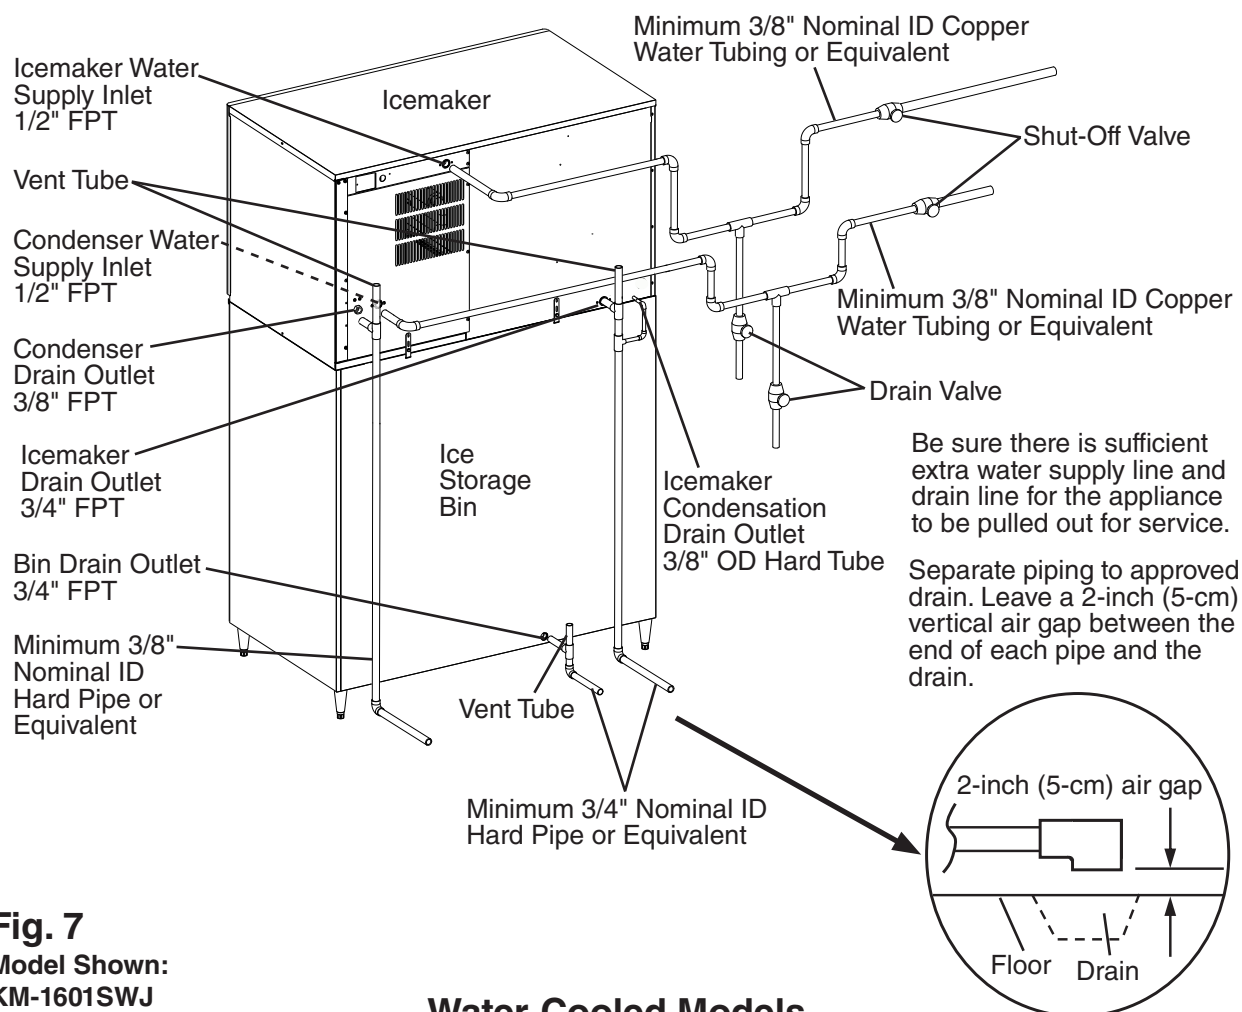

Fig. 7
- Electrical connection must be made in accordance with the instructions on the "WARNING" tag, provided with the pig tail leads in the junction box. See Fig. 7.